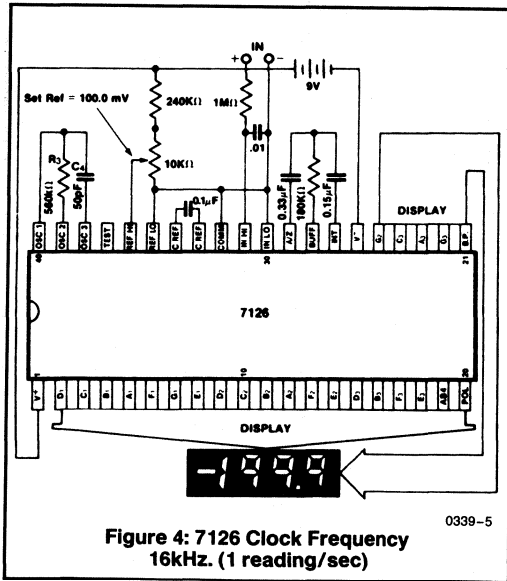

Figure 4: 7126 Clock Frequency
**NOTES:** 3. Unless otherwise noted, specifications apply at  $T_A = 25^\circ\text{C}$ ,  $f_{\text{clock}} = 16\text{kHz}$  and are tested in the circuit of Figure 4.